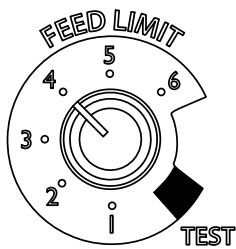

Figure 4.8
4. Adjust Feed Rate. If this is your first fire or you are trying different pellets, set the feed limit to #4, Figure 4.8. This is a conservative number and will probably need to be increased. After you know a feed rate setting that works well, use that setting. Remember, if your feed rate is too high you may waste fuel.